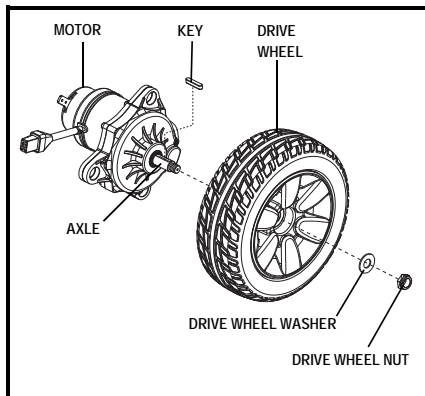

Figure 21. Jazzy Select Elite Drive Wheel Removal
4. Remove the drive wheel nut and washer from the axle. See figure 21.
8. Reinstall the drive wheel nut and washer onto the axle and tighten. See figure 21.